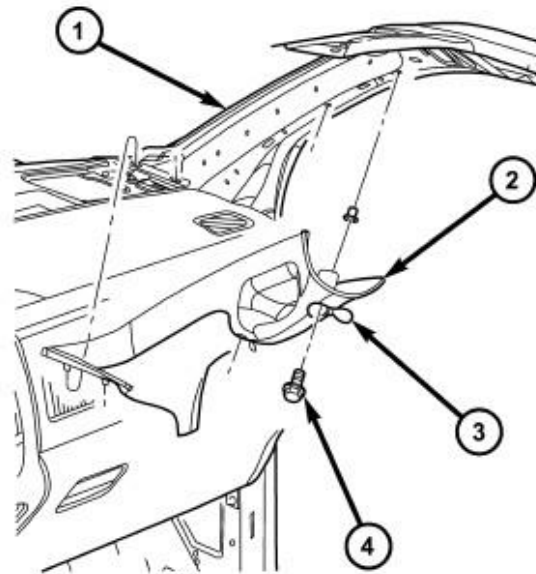

Figure 19 – A-Pillar
1. Using a small flat-bladed tool, carefully open the two fastener covers (3) located in the A-pillar trim panel (2) (Figure 19).
2. Remove the two bolts (4) that secure the A-pillar trim panel to the A-pillar (1) and remove the trim panel (Figure 19).